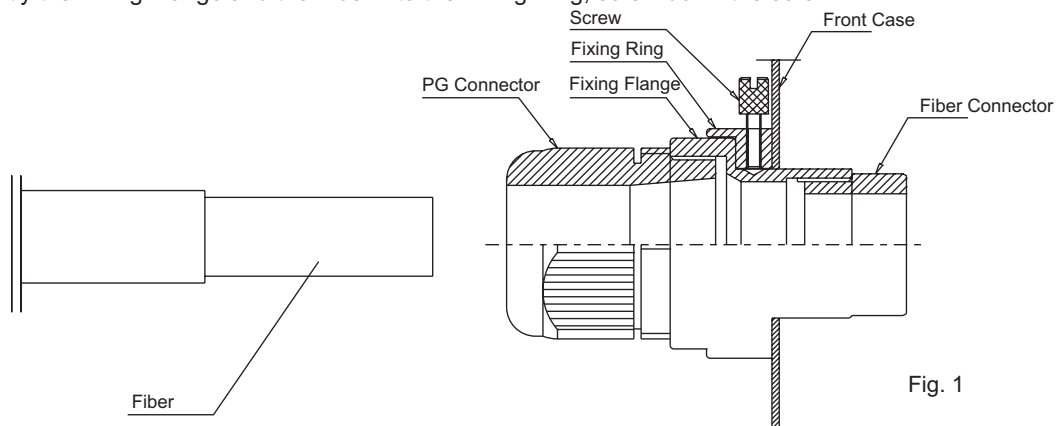

Fig. 1
(1) Solid Core fiber optic(See Fig. 1):
(2) Multi-string fiber optic(See Fig. 1):